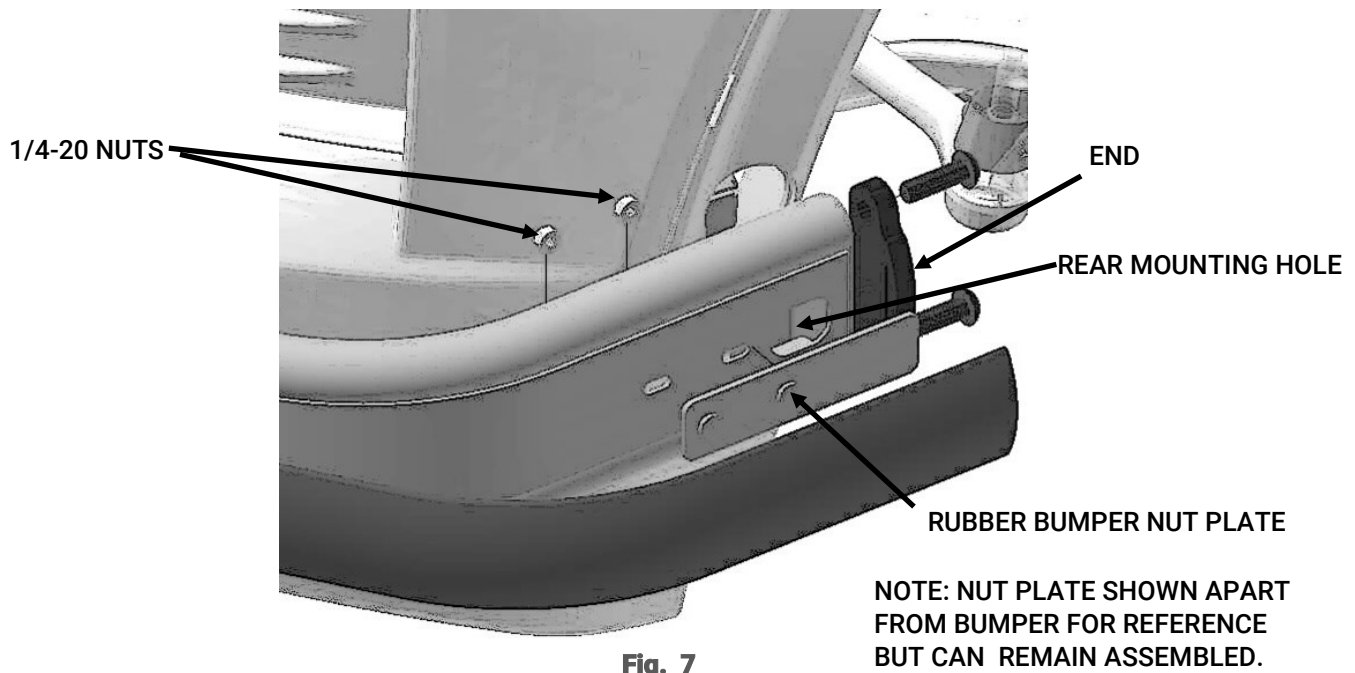

Fig. 7
- B. Using a 5/16" hex wrench, remove 2 bolts attaching the black end cap and remove the cap. (Fig. 7)
- C. Using a 7/16" socket, remove 2 nuts from the rubber bumper nut plate next to the cap that was just removed and pull the rubber strip, along with the retainer, out of the way to expose the wrap rear mounting hole. (Fig.7)